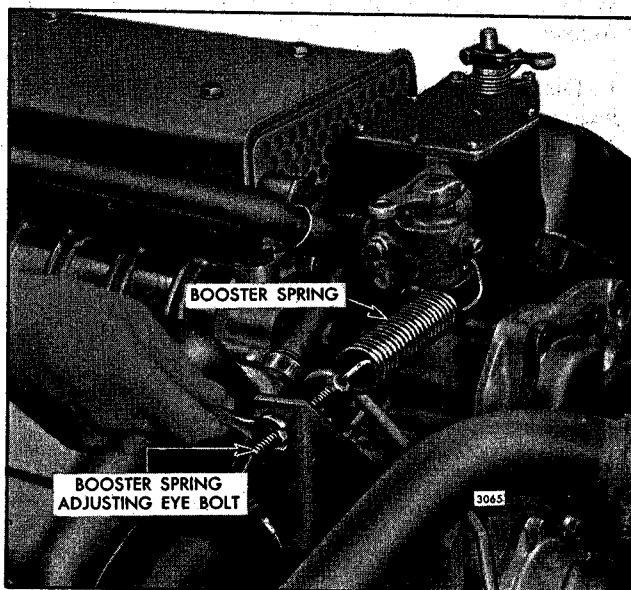

Fig. 7 - Adjusting Booster Spring
1. Refer to Fig. 7 and loosen the booster spring retaining nut on the speed control lever. Loosen the lock nuts on the eye bolt at the other end of the spring.